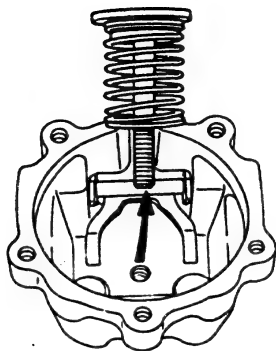

Fig. 39 Adjusting bolt and governor spring removal
11. Remove the locknut (133).
12. Remove adjusting bolt (130) to which spring seats (126 and 129), shim (127), and governor spring (128) are fixed via snapping (131). (Fig. 39)